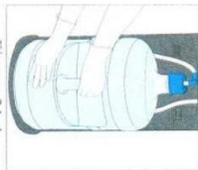

Figure 21-1
21. Install replacement bottle (fig.21-1) (see section for Bottle Change)